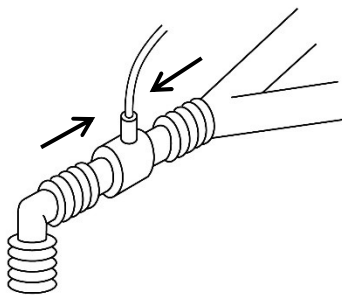

Figure 1
2. Connect the Airway Adapter to the proximal end of the breathing circuit between the endotracheal tube and the ventilator Y-section as shown in Figure 1.